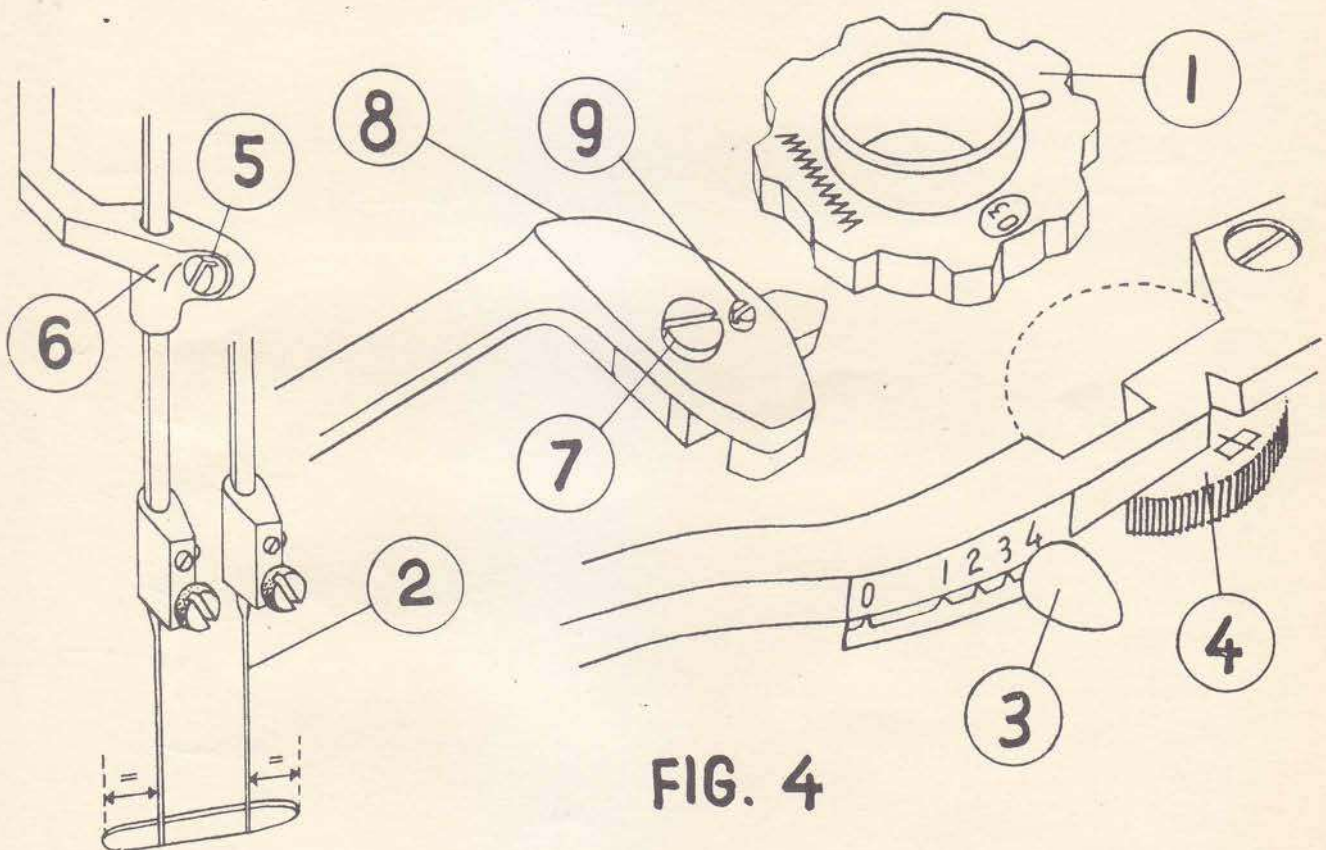

FIG. 4
3. CENTERING OF NEEDLE BAR FOR STITCH WIDTH "4" (for "Supermatic" Fig.4)